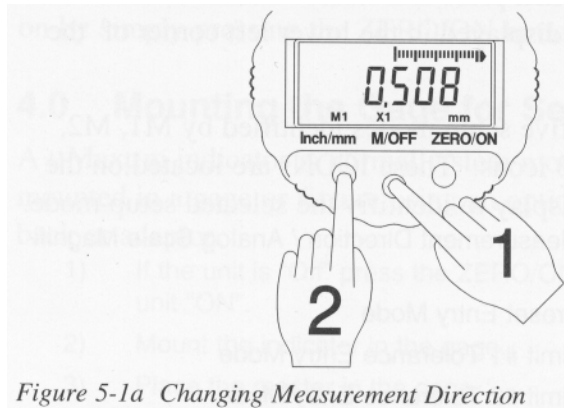

Figure 5-1a Changing Measurement Direction
- 1) Press and hold M/OFF(1) - then press and release inch/mm(2) until the M1 icon is displayed. (Fig.5-1a)